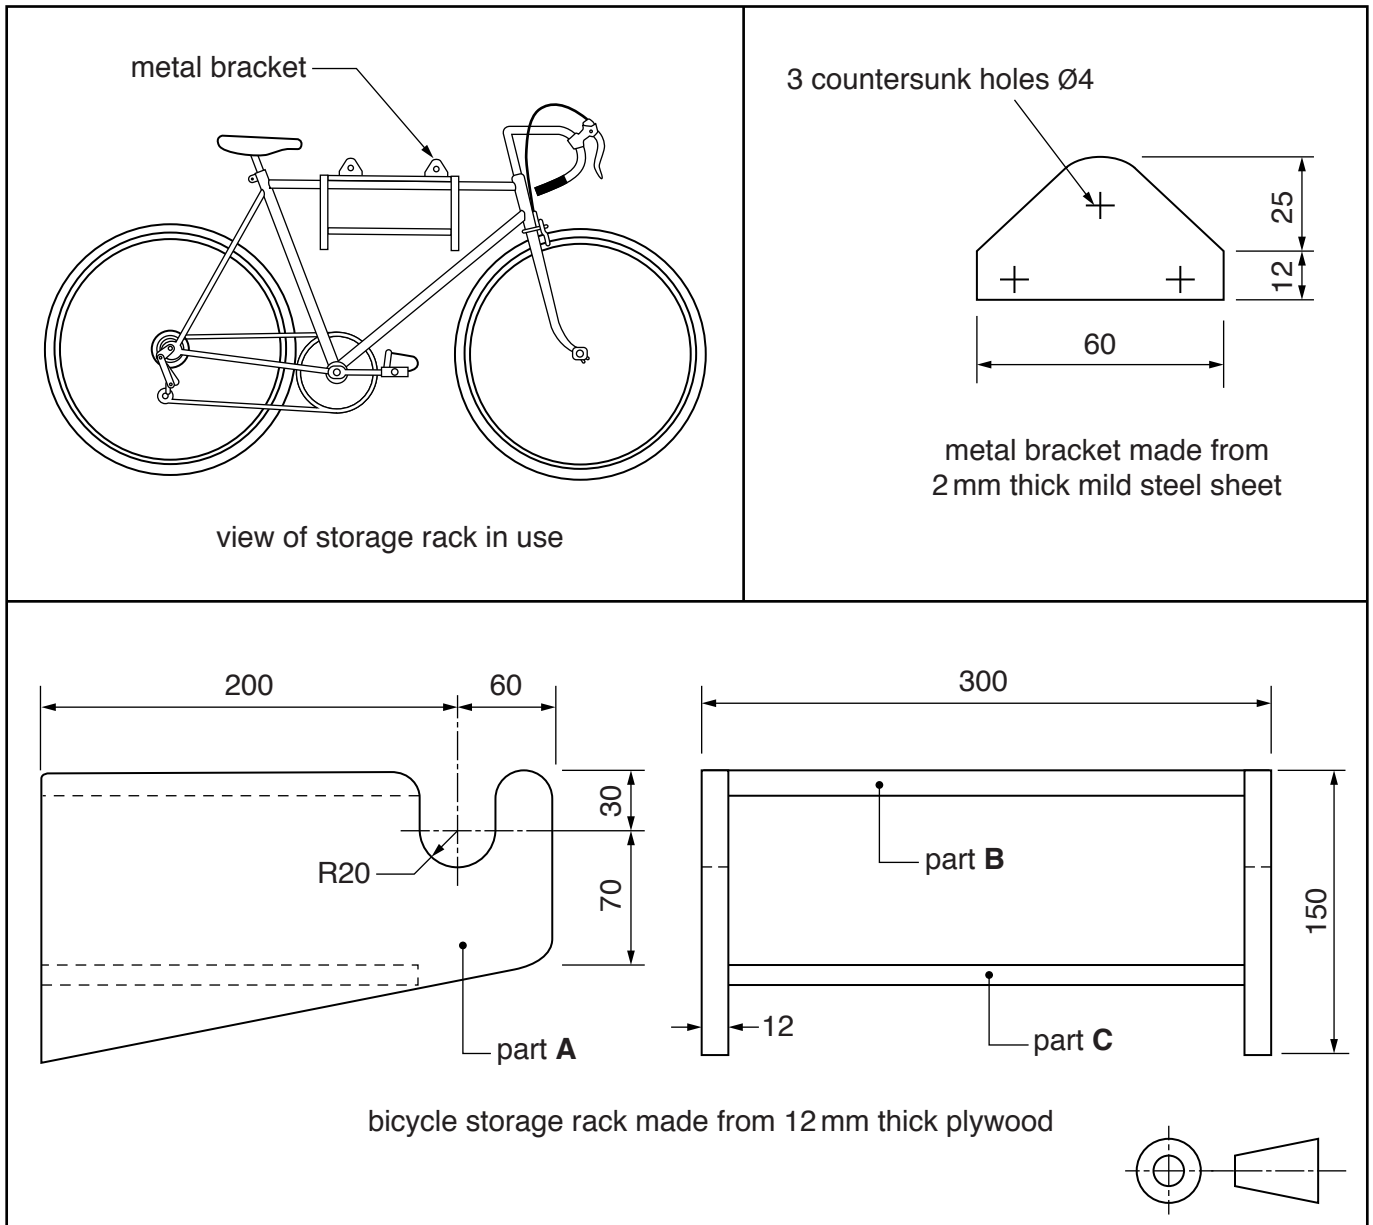

Fig. 3
- 3 Fig. 3 gives details about a bicycle storage rack, made from 12 mm thick plywood, which is to be produced in a school workshop. The rack will be fixed to a wall using two metal brackets.